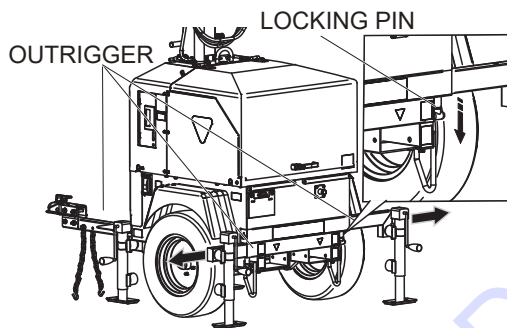

Figure 5. Pulling the Locking Pin
2. Extend all the outriggers by pulling the locking pin on the outriggers and hold while sliding out the outriggers assembly (Figure 5).
3. As soon as the locking pin clears the travel position hole, release pin and continue sliding out the outrigger. When outrigger is in the extended position, make sure pin snaps into the outrigger locking hole (Figure 5).